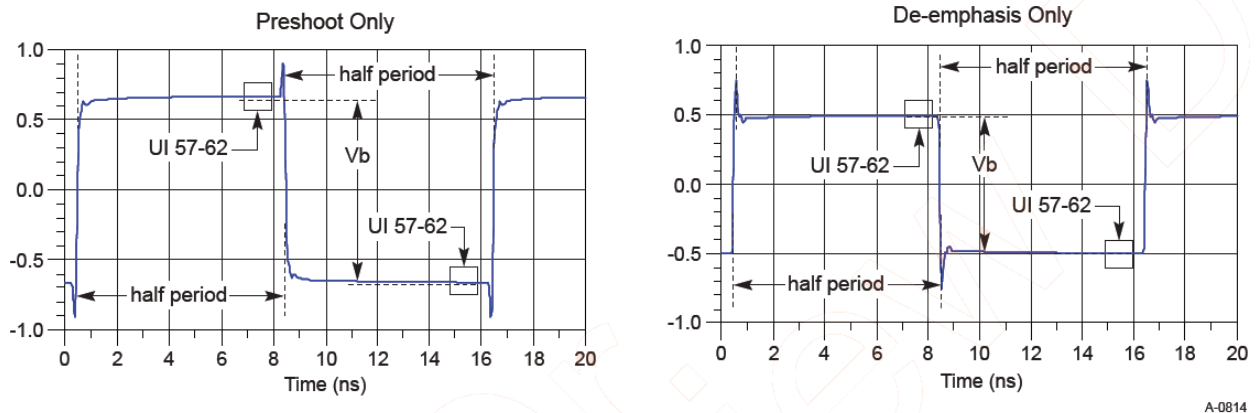

Figure 105 Waveform measurement points for preshoot and de-emphasis
8.0 GT/s, 16.0 GT/s and 32.0 GT/s PCIe signaling must support the full range of presets given in Table 8-1 (PCIe Base Specification Revision 5.0). Presets are defined in terms of ratios, relating the pre-cursor (V_c) is referred to as pre-shoot, while the post-cursor (V_b) is referred to as de-emphasis. This convention permits the specification to retain the existing 2.5 GT/s and 5.0 GT/s definitions for Tx equalization, where only de-emphasis is defined, and it allows preshoot and de-emphasis to be defined such that each is independent of the other. The tolerances in Table 8-1 (PCIe Base Specification Revision 5) also apply to 2.5 and 5.0 GT/s de-emphasis. The maximum swing, V_d , is also shown to illustrate that, when both c_{+1} and c_{-1} are nonzero, the swing of V_a does not reach the maximum as defined by V_d . The high frequency nature of PCIe signaling makes measurement of single UI pulse heights impractical. Consequently all amplitude measurements are made with low frequency waveforms as shown in Figure 105.